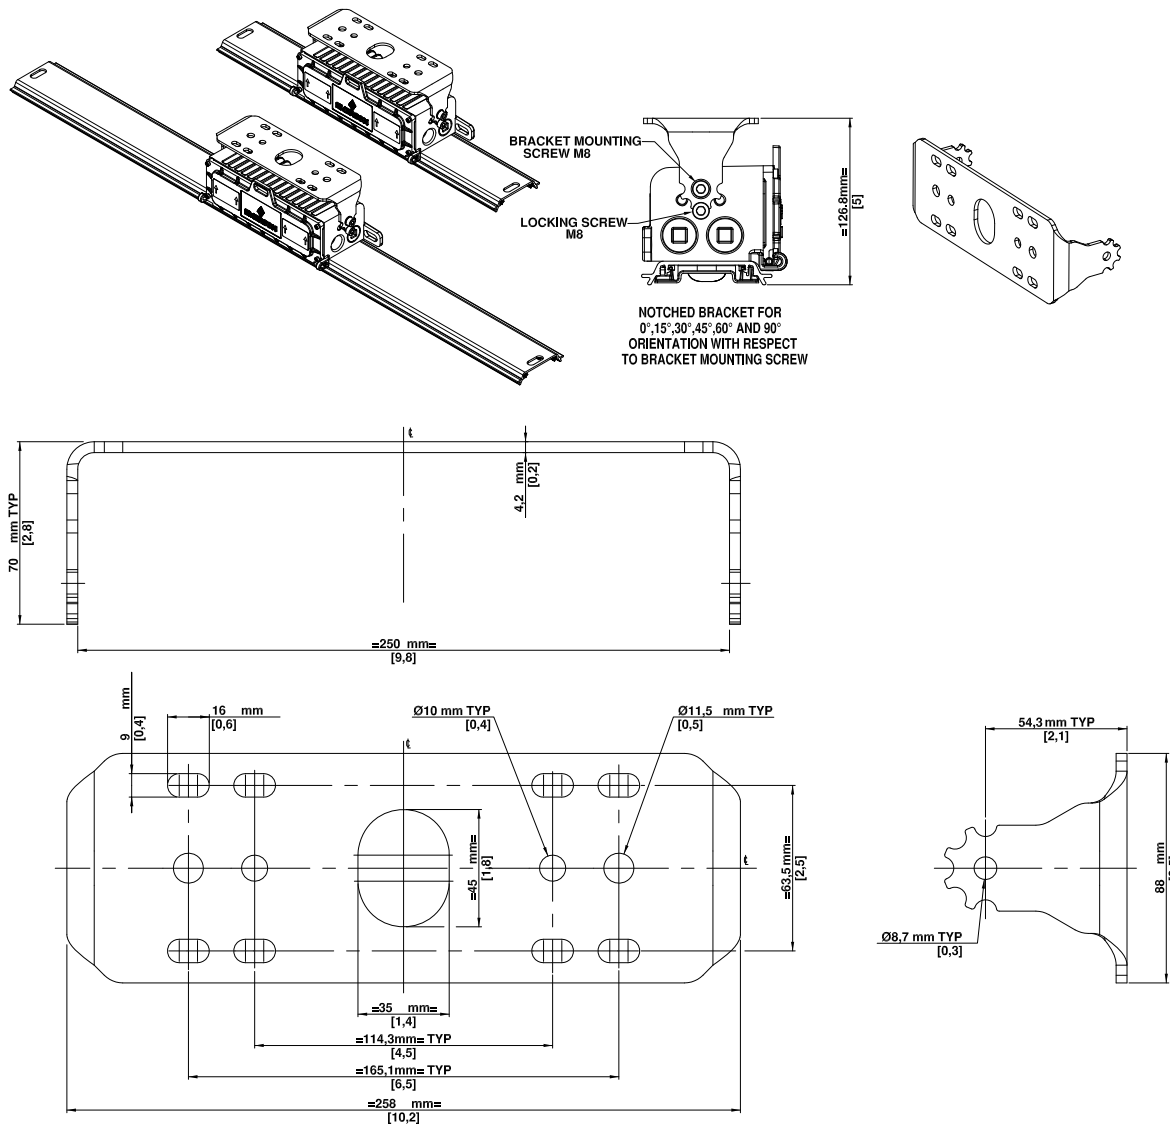

FIGURE 3: MOUNTING OPTIONS – RMSSB BRACKET
2. Determine appropriate mounting distance between holes on the brackets for your application. Refer to Figure 3.
4. Raise luminaire to mounted RMSSB bracket and secure it using M8 washer and bracket mounting screw M8 supplied with the bracket on both sides. Refer to Figure 3 for hole locations.
5. Align the luminaire to the desired aiming position with your free hand and use Locking screw M8 supplied with the bracket to hold at that position. Refer to Figure 3.